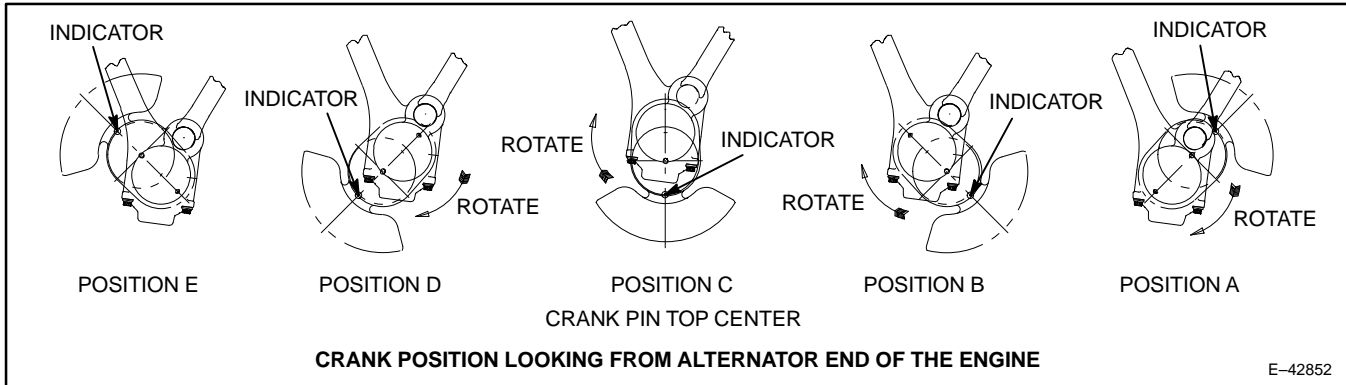
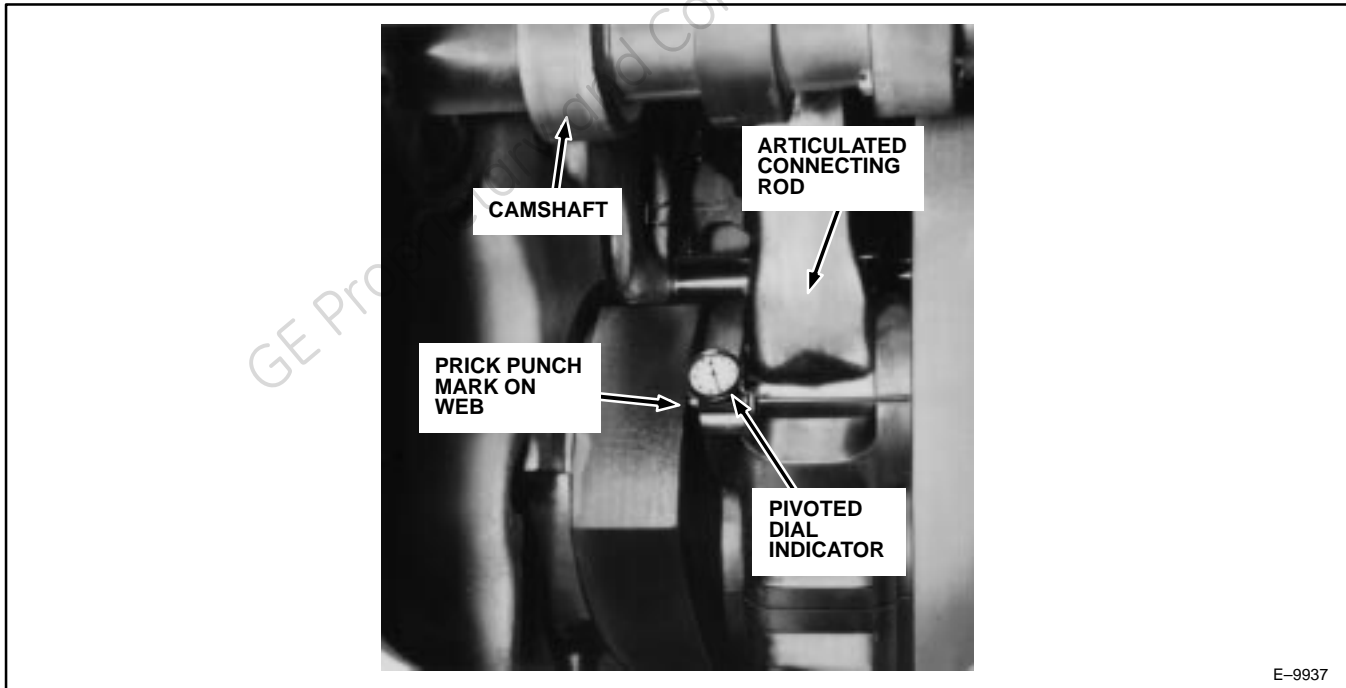

Figure 55. Engine Crankshaft Positions When Measuring Web Deflections.
Figure 56. Measuring Crankshaft Web Deflection On Rear Crank Throw.
1. With all compression release plugs loose, rotate the crankshaft until the rear crank pin is approximately 45° from top center (Position A, Figure 55). Place the crankshaft deflection gage (GE Tool 41D797425P1 or equivalent – MUST have 0.0001 in. graduations) between these webs, using the punch marks which will be found about 0.1875 in. (4.8 mm) in from the edge of the web (Figure 56).
3. Rotate the crankshaft and take readings as indicated in Figure 55 (at Positions **C** and **E**). Do **NOT** allow the connecting rod to hit the deflection gage by rotating the crankshaft too far.
The following formulas will approximate the amount of shims to be added or removed from the TL (Top Left) or TR (Top Right) shim packs based on deflections at Positions **C** and **E**, Figure 55 (view engine from alternator end; Sign convention is “+” reading indicates web spread while “-” reading indicates web compression. Check gage and adjust sign accordingly):